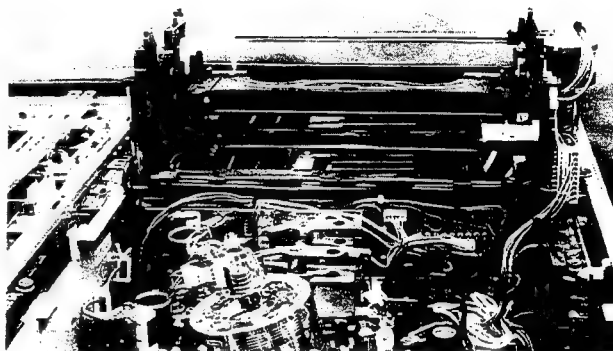

Fig. 2-6 Mechanism operation
- a) Place the cassette housing upside down on the rear bracket, as shown in Fig. 2-6. Engage the connectors of the cassette housing with the cassette housing board.